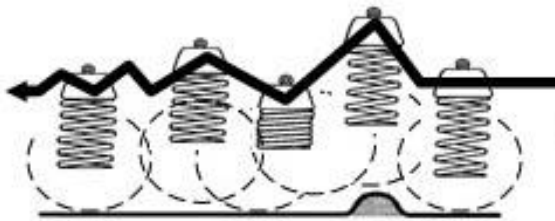

Figure 5
Q.8 Two suspension systems shown in the figures 5 and 6 compare it on the basis of